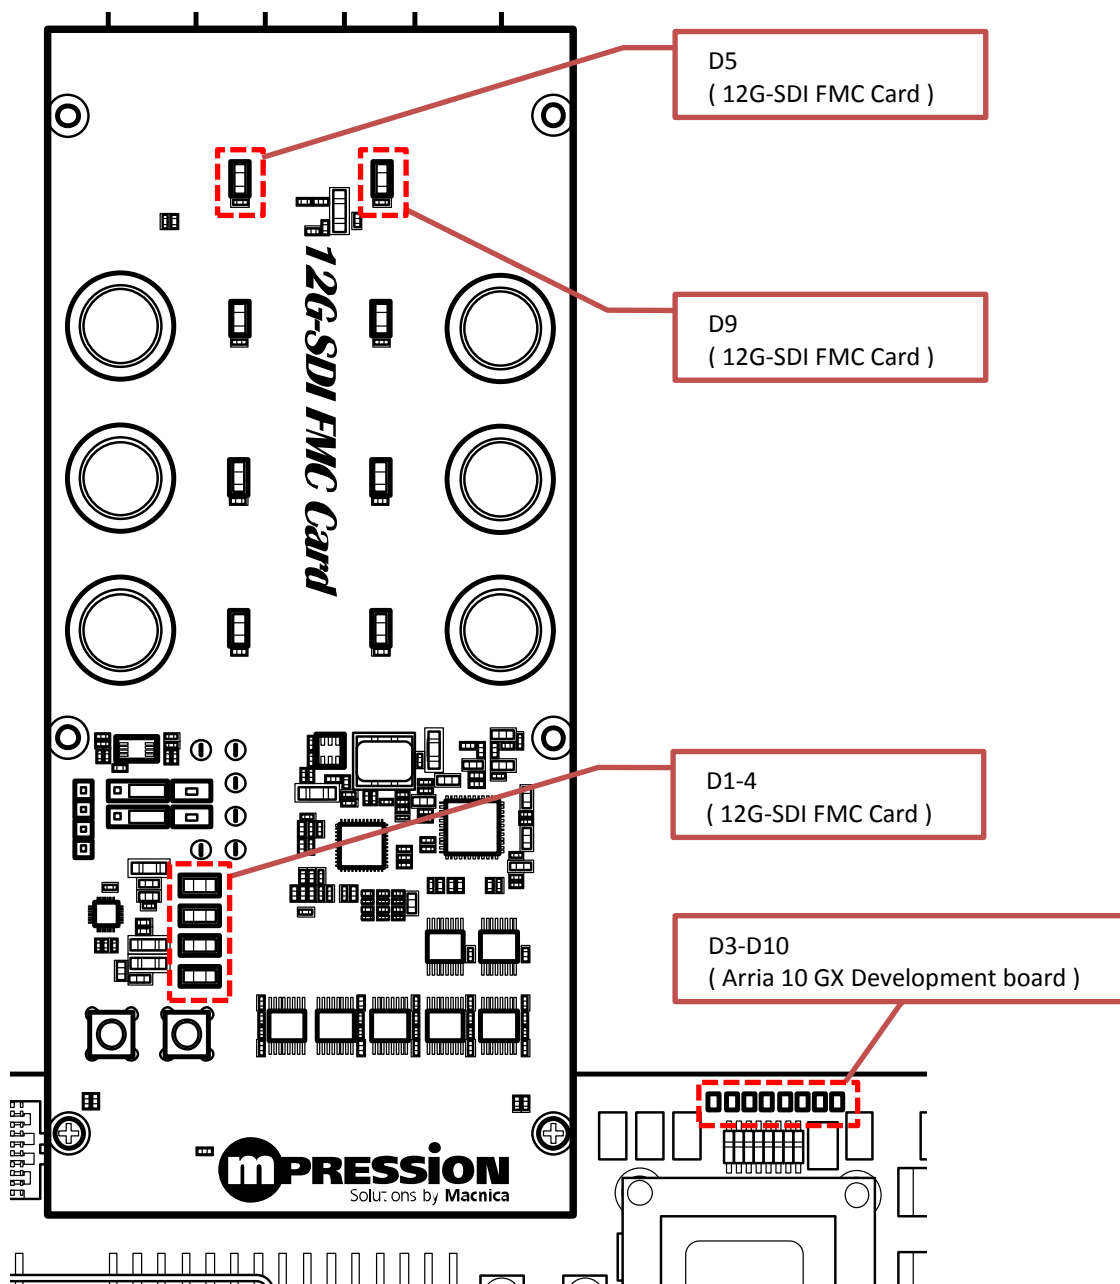

Figure 6-1. Positions to Confirm LEDs
5. Refer to Figure 6-1 and Table 6-1 to confirm the status of the LEDs on the FMC card and the Arria 10 GX FPGA Development Board.